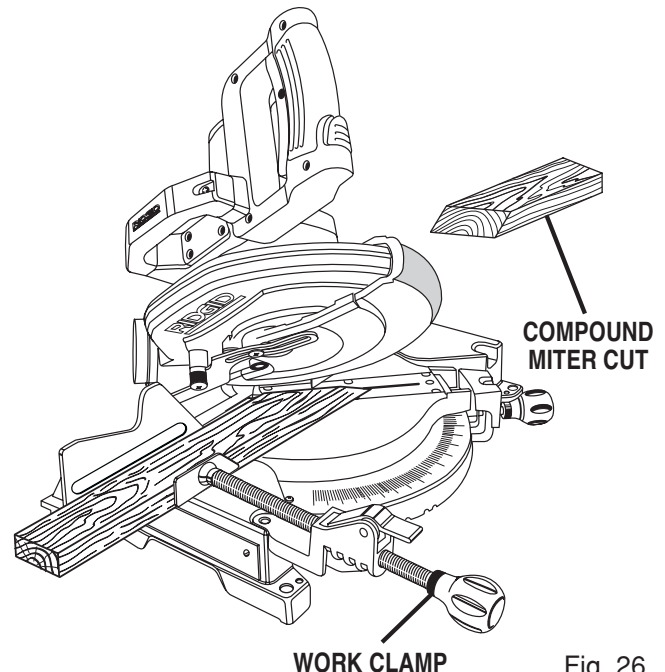

Fig. 26
- Slowly lower the blade into and through the workpiece. *See Figure 26.*
- Grasp the stock firmly with one hand and secure it against the fence. Use the optional work clamp or a C-clamp to secure the workpiece when possible. *See Figure 26.*
- Slowly lower the blade into and through the workpiece. *See Figures 26 and 27.*